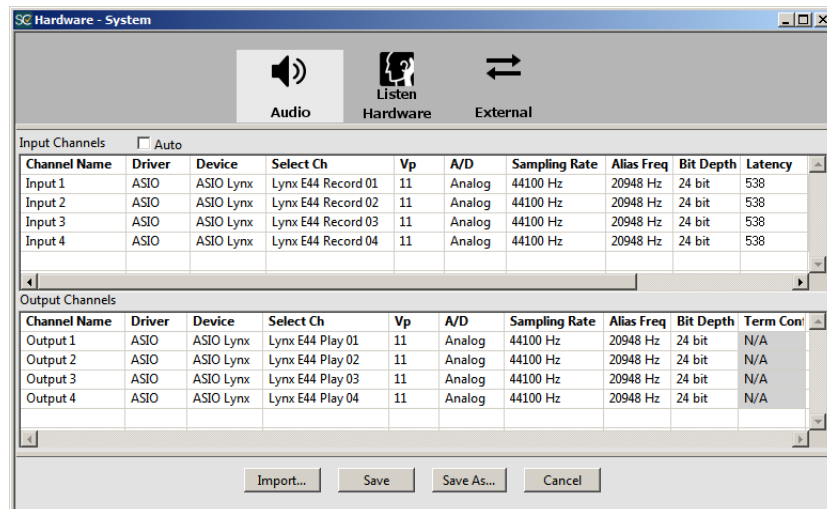

Figure 1-3: Hardware Editor
- The sample rate of the **Lynx E44/E22** automatically updates to the rate set in the SoundCheck Hardware Editor (Figure 1-3) and the **Lynx E44/E22** mixer updates when the sequence runs
The Hardware Editor in Figure 1-3 shows the general settings for the Input and Output Vp values. The E22 will be the same but only 2 channels.